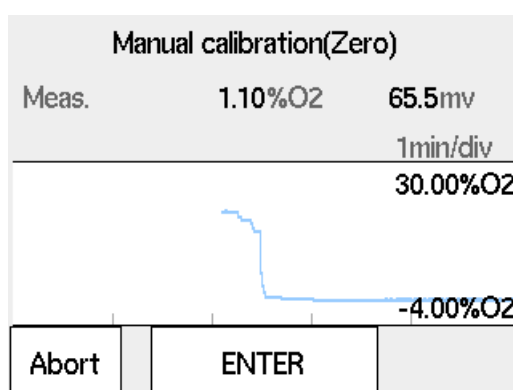

Figure 7.23 Trend in Zero gas calibration
- (8) Similar to span calibration, selecting "Start calibration" displays the trend graph of the oxygen-concentration reading being measured (Figure 7.23) on screen. Wait for the reading to stabilize near the zero gas concentration by monitoring the graph and the sensor electromotive force. At this point, calibration is not yet executed, so it is acceptable for the reading to deviate from the zero air concentration.